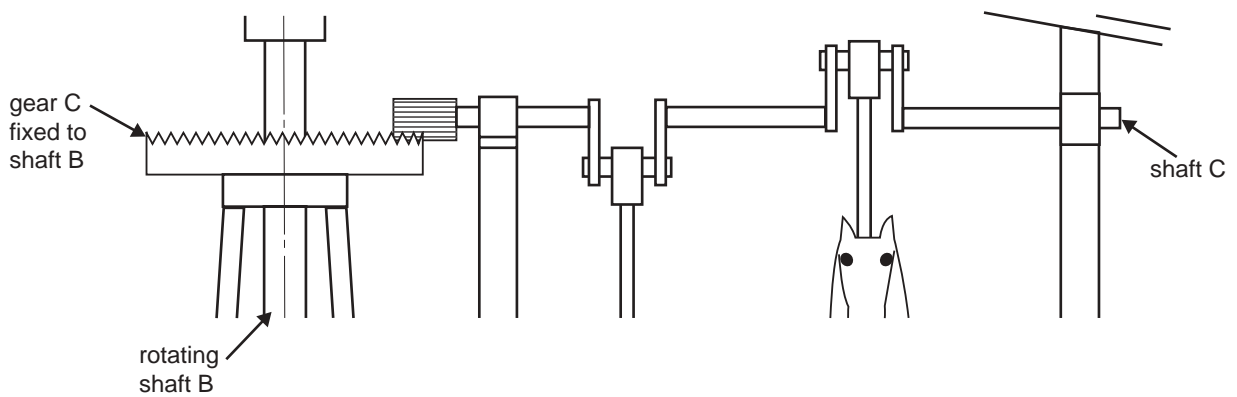

Figure 5
- g. On the diagram below (Figure 5) label the effort, fulcrum and the load acting on shaft C.